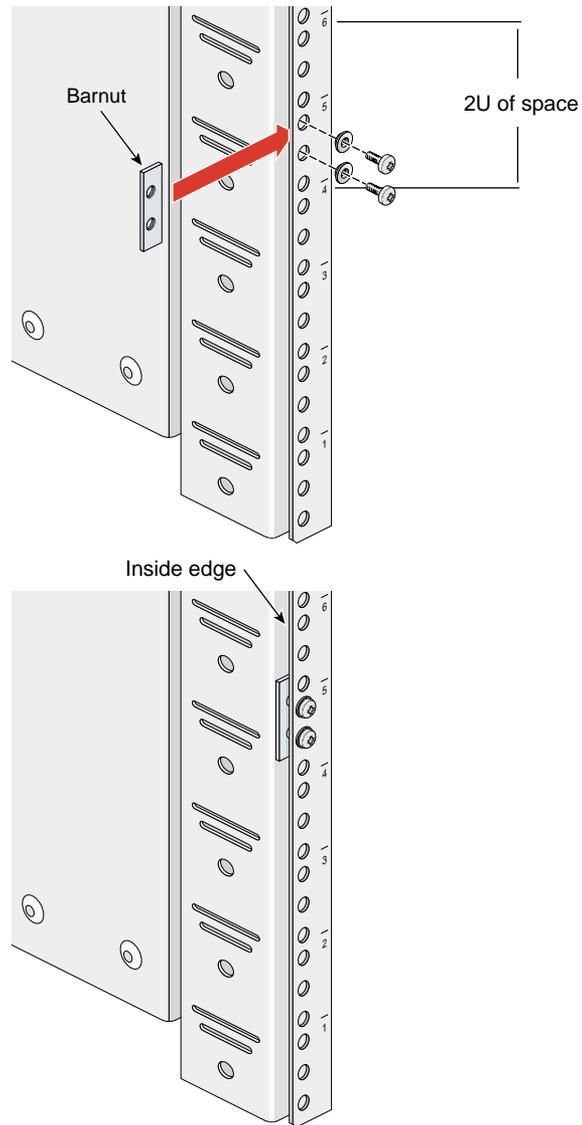

Figure C-5 Placing the Bar Nuts on the Rack Rails
2. Place one of the bar nuts inside the rack and align it with the second and third holes of the selected 2U of space (see Figure C-5).
Note: The holes in the bar nuts are not centered. The bar nuts need to be placed in such a way that the holes are closest to the inside edge of the rack rails. See Figure C-5.